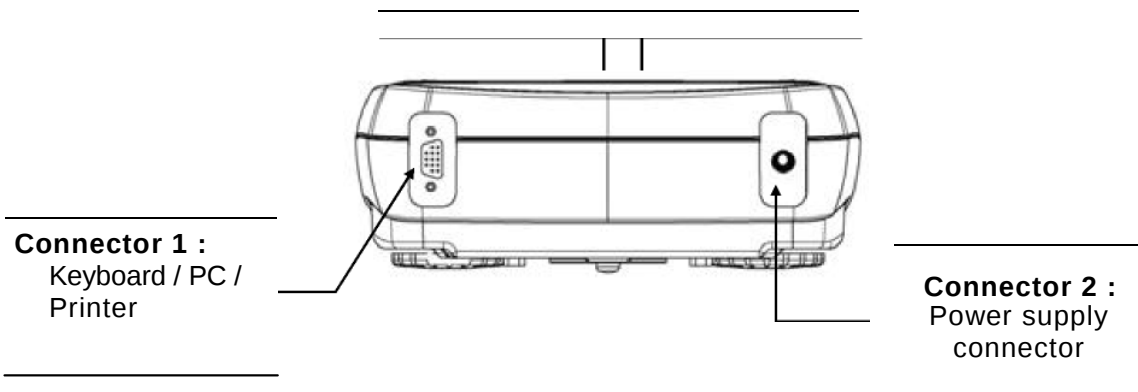

Fig. 1 Rear side of the balance
Selecting the transmission to PC (personal computer IBM compatible), it is achieved a continuous transmission output, at the same rate of weight update on display of the balance. It is possible to perform all the functions of the balances directly from the computer keyboard, transmitting to the balance the ASCII codes as in the table below. The connector to use for connection to PC is the number 1 (fig.1 pag. 37).
3. Selecting the transmission to PC at user command, it is achieved a transmission output only when the **PRINT** button is pressed, also in this case it is possible to perform all the functions of the balance directly from the keyboard of the computer, sending to the balance the ASCII codes in the table above. The connector to use for connection to PC is the number 1 (fig.1 pag. 37).
To receive/transmit data, connect the connector 1 (fig.1 pag. 37) of the balance to the serial port of the PC as shown below:
In this case the printing is effected only when the **PRINT** button is pressed and with stable weight. If the stability is not reached within ten seconds, the message **ERROR05** is displayed preceded by a short acoustic signal and the value of the weight is not sent to the printer. The connector to be used for the connection is the number 1 (fig.1 pag.37).
Connect a serial printer to connector 1 (fig.1 pag.37) to the balance as shown in the following scheme:
To connect the optional alphanumeric keyboard it must be used the connector 1 (fig.1 pag.37), the same used for connection to a PC. In this case the connection to PC or to printer must be effected through the connector placed on the optional alphanumeric keyboard.